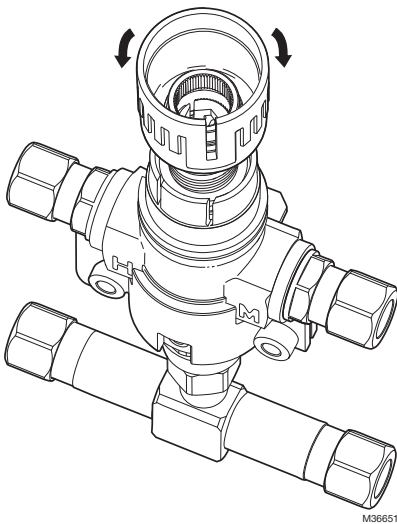

**Fig. 3. Remove the handwheel.**
2. Remove the cap by pulling it off. See Fig. 3.